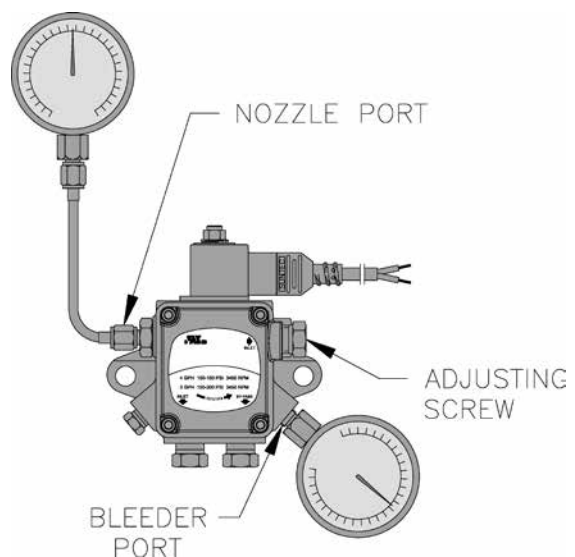

Figure 16: Adjusting Fuel Pump Pressure
- a. When checking a fuel unit's operating pressure, a reliable pressure gauge may be installed in either the bleeder port or the nozzle port. For Beckett burner refer to Figure 16.